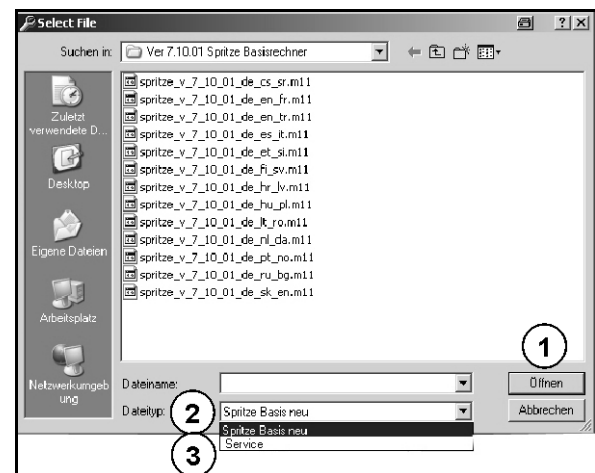

Fig. 7
→ The file selection window opens (Fig. 7).
- Computer label (Fig. 7/2):
If you select the computer label file type (Fig. 7: E.g. "Sprayer, basic new") only files that can be used for this type of computer are displayed. It is therefore not possible to interchange the software.
- Service (Fig. 7/3):
4. After selecting the software, confirm your selection by clicking on "Open" (Fig. 7/1).